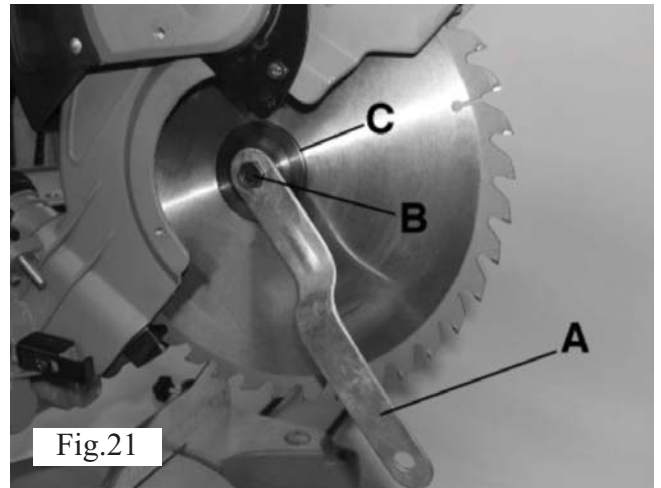

Fig.21
7. Use the blade wrench (A) Fig.21 supplied to remove the blade bolt (B), loosen in a clockwise direction as the blade bolt has a left hand thread.